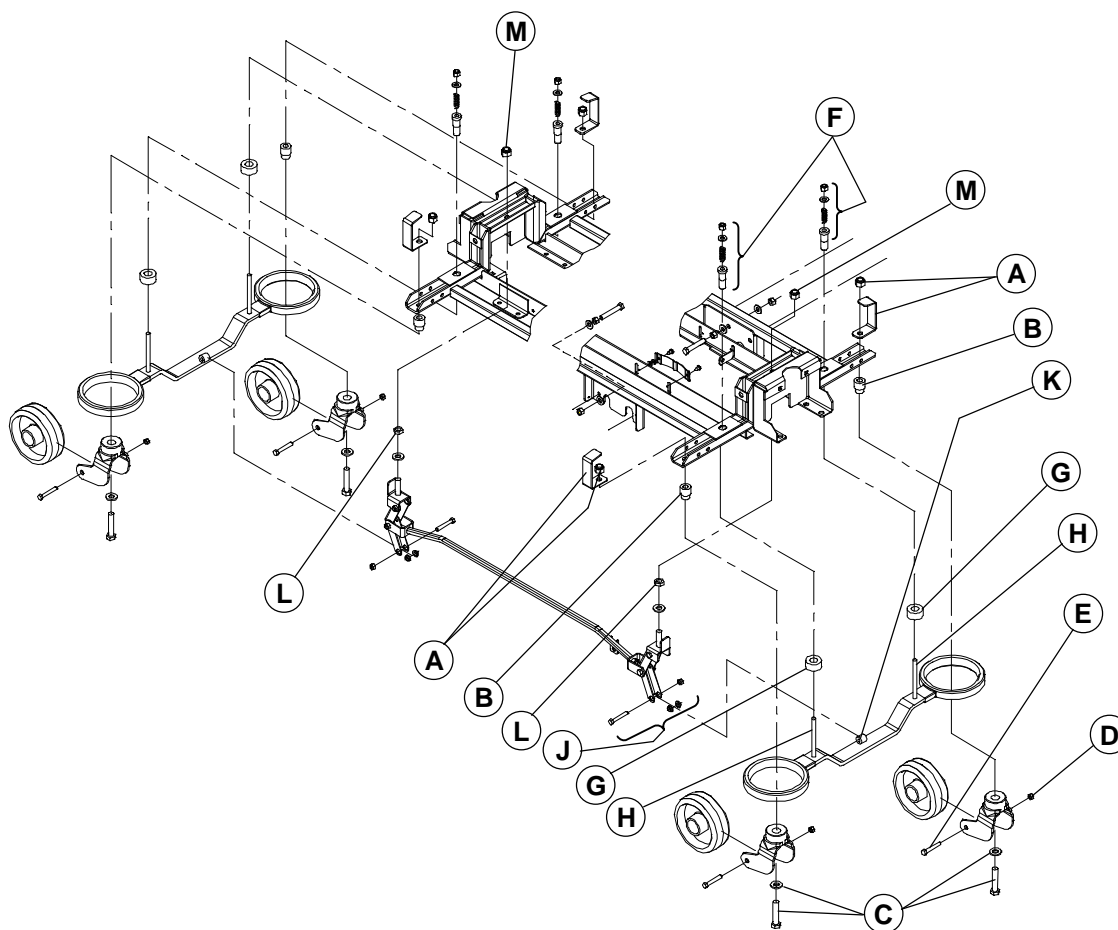

Figure 3.8
Unless otherwise stated, reference letters contained in the following procedure will refer to figure 3.8, page 24.
6. Using a 3/4" socket and ratchet and a 3/4" angled socket and ratchet, remove the locknut/ base hood support (A, fig. 3.8, page 24), caster adjusting sockets (B, fig. 3.8, page 24) and washer/bolt (C, fig. 3.8, page 24), holding the caster assembly to the base frame. Remove the defective caster.
Reaching the caster assembly bottom bolt may be difficult without the adequate tool. Removing the wheel will clear access to this bolt. Use a 5/8" wrench and a 11/16" socket and ratchet to remove the nut (D, fig. 3.8, page 24) and bolt (E, fig. 3.8, page 24) holding the wheel to the caster horn and remove the wheel.